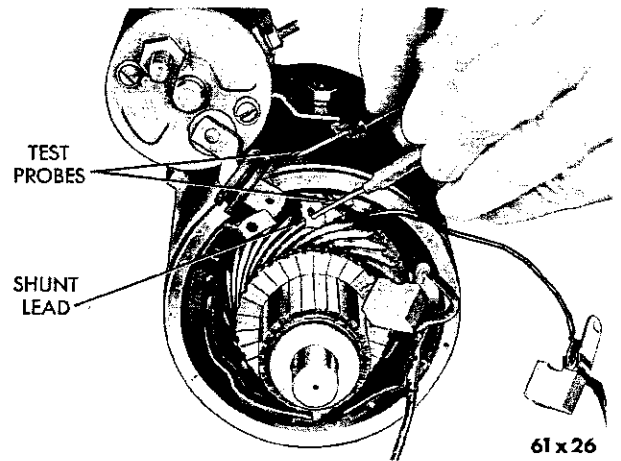

Fig. 16—Testing Shunt Coil for Ground
(6) Touch one probe to the shunt field coil lead and the other probe to the field frame (Fig. 16).